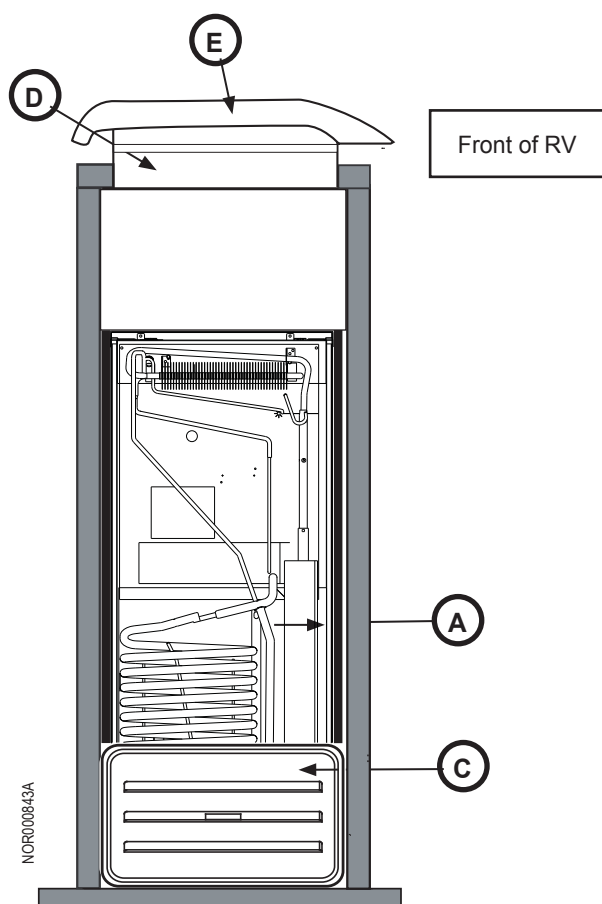

Fig. 6 - Typical roof exhaust venting
- Side baffles (Fig. 6, A)
- Vertical top baffle (Fig. 6, B)
Ventilation and combustion air flow through the lower intake vent (Fig. 6, C), which also serves as the service access or door. The lower intake vent needs be kept clear of obstructions that may restrict the flow of fresh air into the enclosure.
Warm air and combustion gases flow out of the enclosure through the exhaust vent. The exhaust vent can be either a roof exhaust vent (Fig. 6, D) or an upper sidewall exhaust vent.
The roof cap (Fig. 6, E) fits over exhaust vent. The sloped end always faces the front of the RV. It is held in place by four (4) 2-1/2" long Phillips head screws.